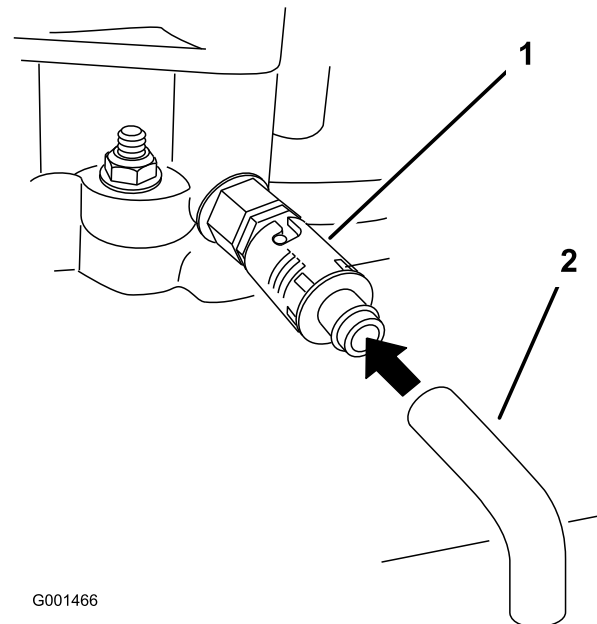

Figure 25
6. Place a pan below the drain hose. Rotate oil drain valve to allow oil to drain (Figure 25).
8. Remove the drain hose (Figure 25).